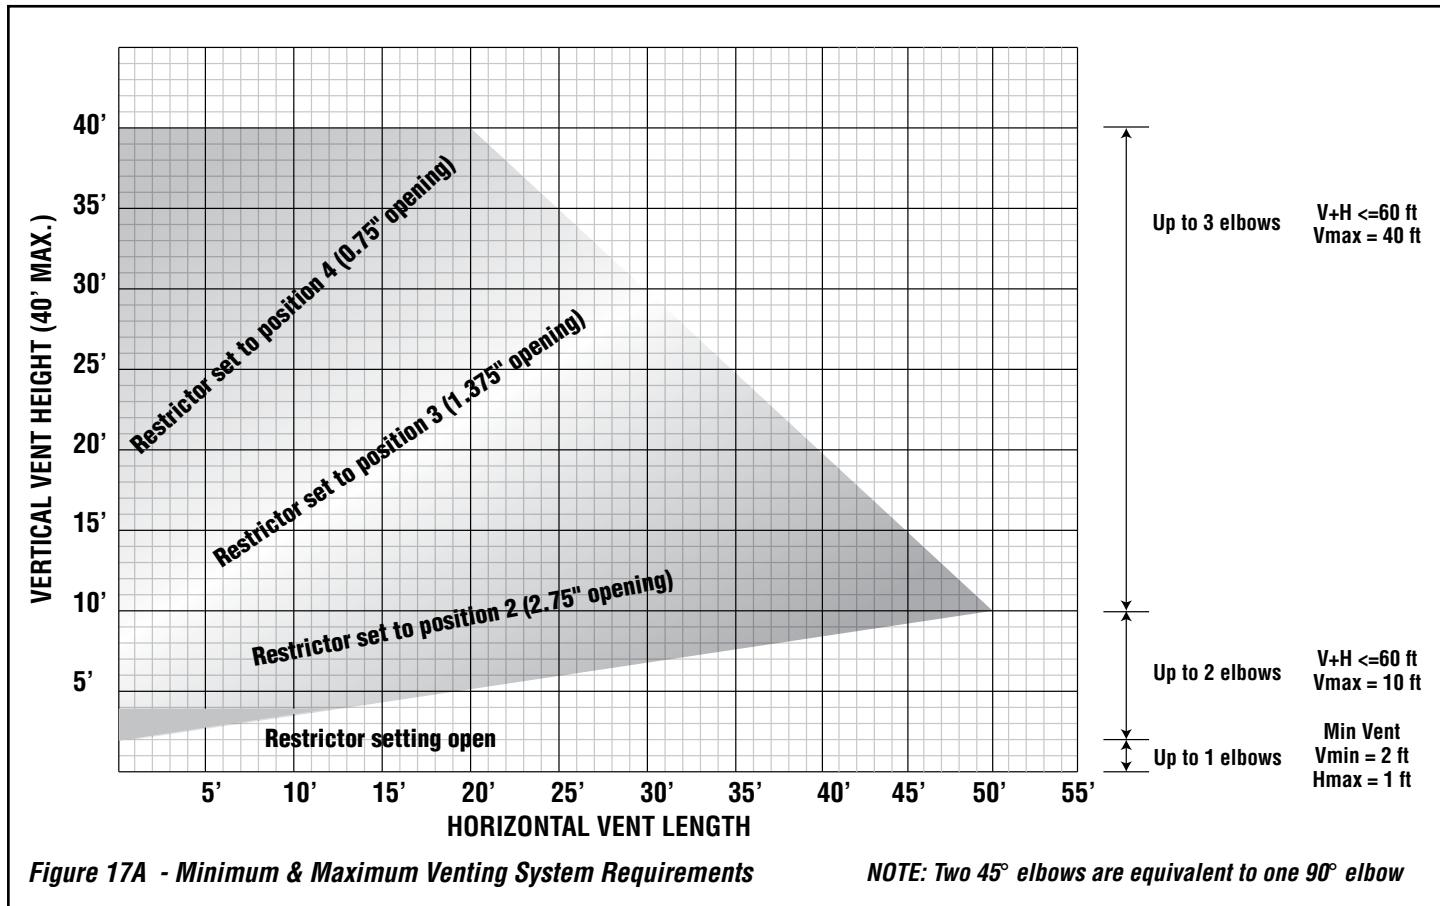
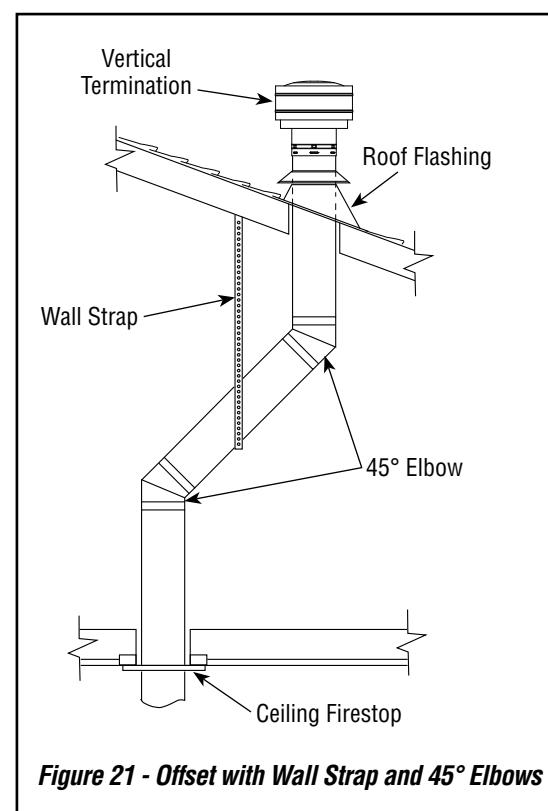

Figure 17A - Minimum & Maximum Venting System Requirements
Figure 21 - Offset with Wall Strap and 45° Elbows
1. Determine route your vertical venting will take. If ceiling joists, roof rafters or other framing will obstruct venting system, consider an offset (see **Figure 21**) to avoid cutting load bearing members. **NOTE:** Pay special attention to these installation instructions for required clearances (air space) to combustibles when passing through ceilings, walls, roofs, enclosures, attic rafters, etc. Do not pack air spaces with insulation. Also note maximum vertical rise of venting system and any maximum horizontal offset limitations (see **Figures 17A**).
NOTE: If an offset is needed to avoid obstructions, you must support vent pipe every 3 feet. Use wall straps for this purpose (*see Figure 21, Page 22*). Whenever possible, use 45° elbows instead of 90° elbows. The 45° elbow offers less restriction to the flow of flue gases.
5. Place flashing over pipe section(s) extending through roof. Secure base of flashing to roof and framing with roofing nails. Be sure roofing material overlaps top edge of flashing as shown in **Figure 21, Page 22**. There must be a 1" clearance from vent pipe to combustible materials.